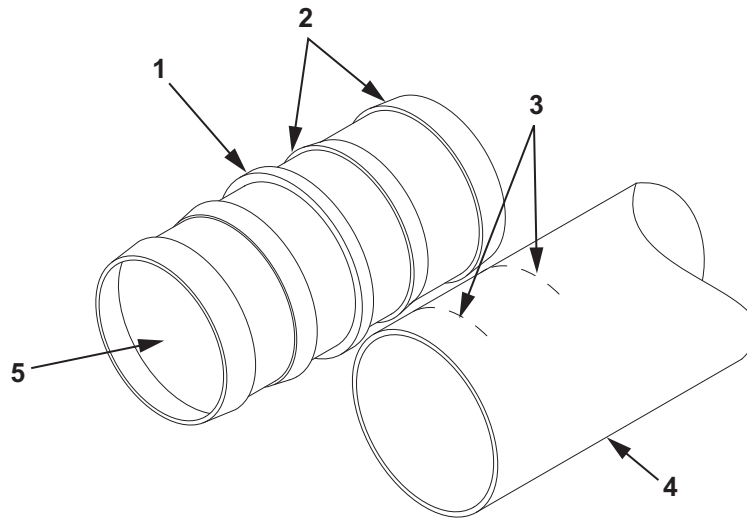

Figure 7. Hose Assembly Repair.
19. Using the hose splice (Figure 7, Item 5) as a guide, align the cut end of one section of hose assembly (Figure 7, Item 4) with the machined stop (Figure 7, Item 1) in the center of the hose splice (Figure 7, Item 5).
20. Using a marking pen, mark two lines (Figure 7, Item 3) on the hose assembly (Figure 7, Item 4) where the hose barbs (Figure 7, Item 2) will be located.